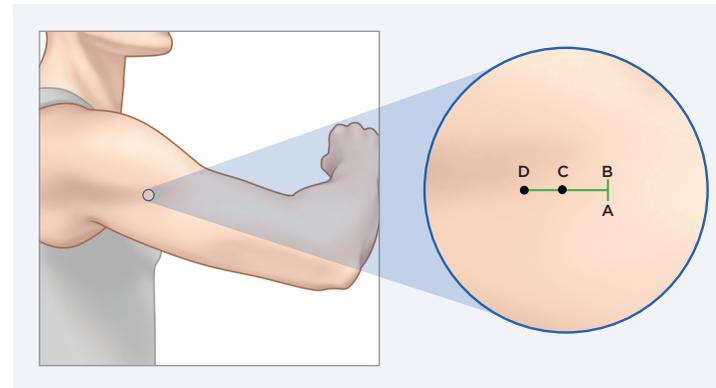

Figure 1
Local anesthesia (approximately 2 mL of Lidocaine) should be injected approximately 5-8 mm along the planned incision (along AB) and approximately 30 mm perpendicular to the planned incision (along CD) which is the planned track of the blunt dissector tool. (Figure 1).
Start incision at point B (Figure 1) and go towards point A, until the incision is approximately 5-8 mm.
2. Remove the blunt dissector from the tray and introduce the blunt dissector at approximately a 45 degree entry angle at the midline between A and B (Figures 1 & 2) so that the tip and beveled portion of the blunt dissector are under the skin.